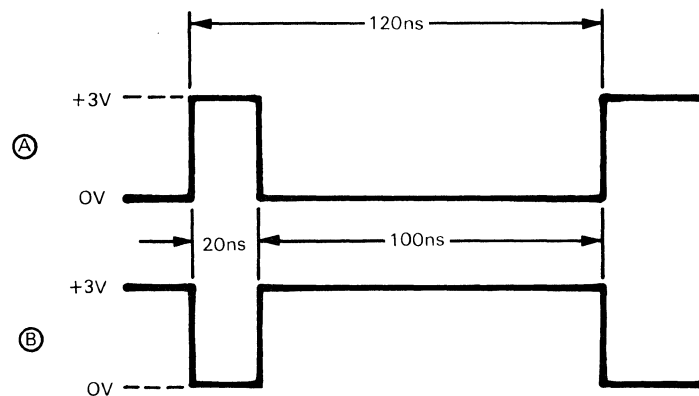

Figure 4-8. Minimum Clock Width Test Waveform
- d. Adjust pulse generator for output waveform A as shown in figure 4-8.
- l. Adjust pulse generator for waveform B as shown in figure 4-8.